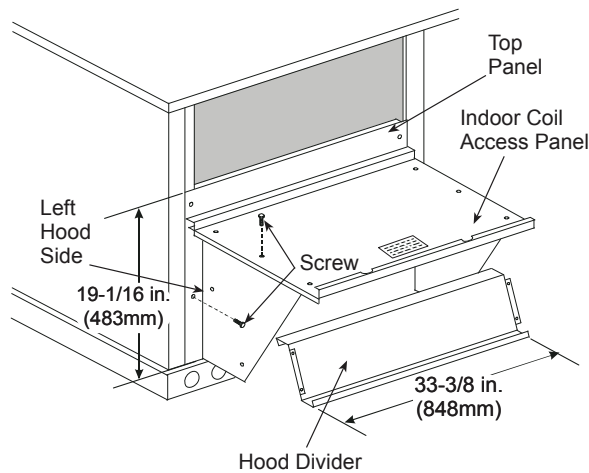

Fig. 12 — Economizer Hood Construction
2. Swing out indoor coil access panel and insert the hood sides under the panel (hood top). Use the screws provided to attach the hood sides to the hood top. Use screws provided to attach the hood sides to the unit. See Fig. 12.
4. Insert the hood divider between the hood sides. See Fig. 12 and 13. Secure hood divider with 2 screws on each hood side. The hood divider is also used as the bottom filter rack for the aluminum filter.